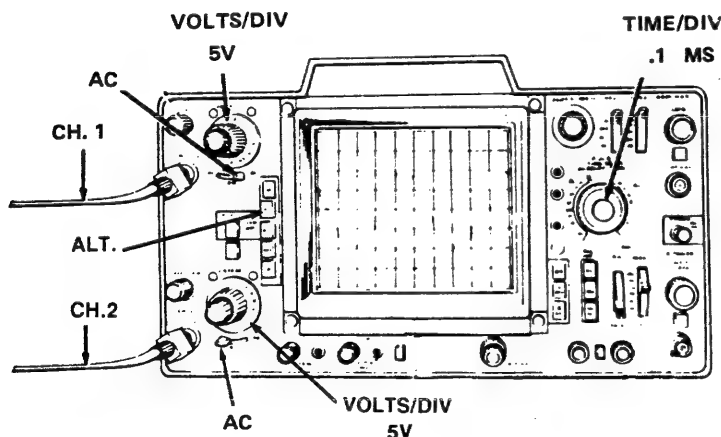

Figure 3-6.2A
7. Set the Oscilloscope Controls as shown in Figure 3-6.2A.